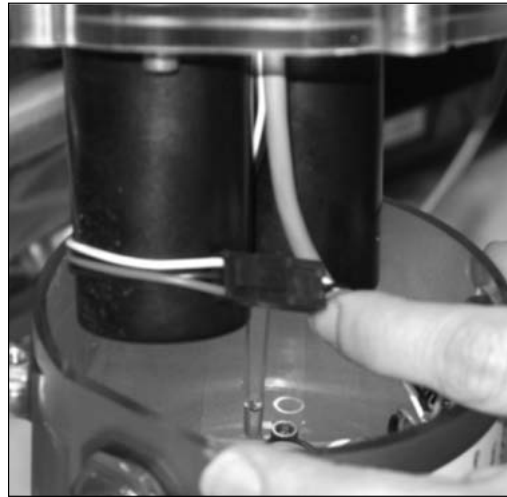

Figure 13.8 - Remove excess slack: AMR version
- Take excess slack out of the battery wires by threading through the center of the two battery stacks and gently wrapping the wires around the stacks as shown in Figure 13.8.